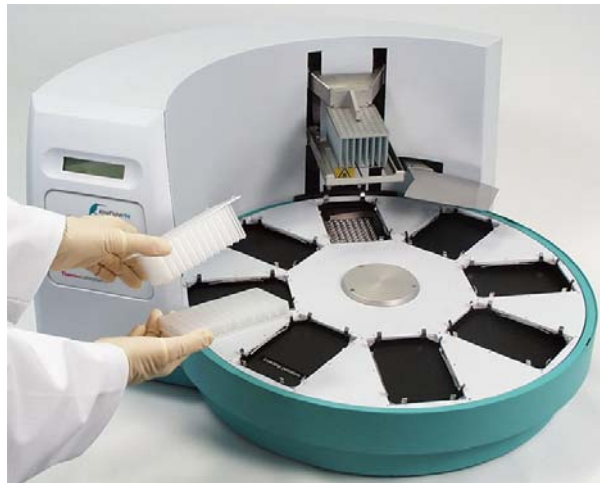

Figure 1. Combining the tip comb with KingFisher 96 plate.
6. Combine the tip comb and KingFisher 96 plate (figure 1).